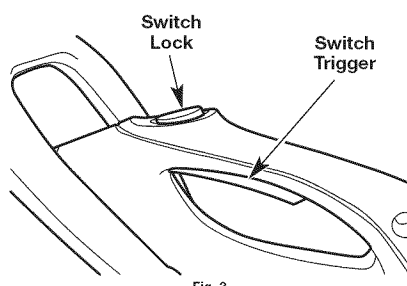

Fig. 3
- Press and hold the switch lock (Fig. 3). This makes the switch trigger operational.
- While holding the switch lock, press and hold the switch trigger (Fig. 3).